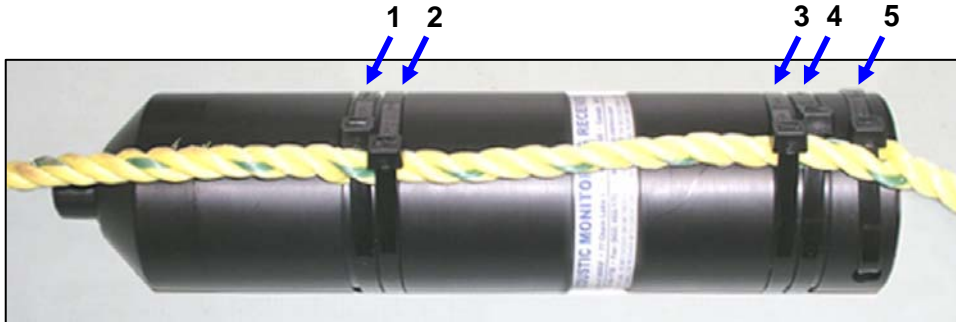

Figure 4-2: Cable tie locations for attaching VR2W receiver to a mooring line.
5. Wrap the cable tie labelled 4 in the photo below around the body of the VR2W so the cable tie is in the bottom half of the lower groove in the VR2W body (see the Figure 4-2).
8. Wrap a cable tie around the VR2W receiver and the rope so the cable tie occupies the top half of the lower groove in the VR2W body (see Figure 4-2).